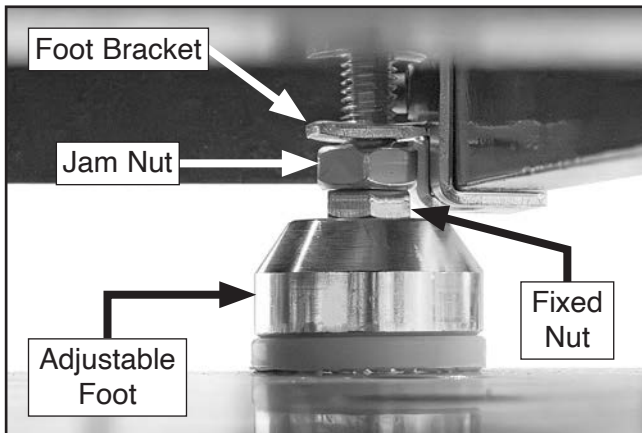

Figure 12. Adjustable foot components (viewed from underneath machine).
2. Lower jam nut and rotate fixed nut on adjustable foot until axis is level (see **Figure 12**). Raise jam nut against foot bracket to secure.